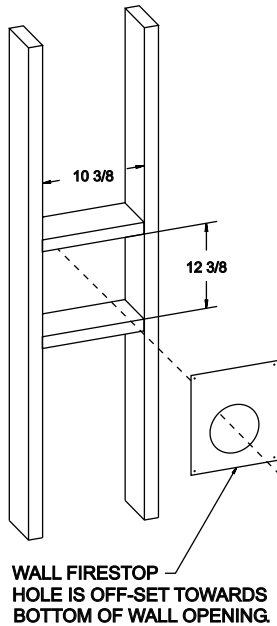

Figure 29
**Installing Firestops (Figures 29, 30, 31 and 32)**
Cut a 10-3/8 inch x 12-3/8 inch hole in wall. Position firestop (SD-1249) on **interior** side of wall for 10-3/8 inch x 12-3/8 inch hole. **Attention:** Wall firestop hole is off-set towards bottom of wall opening. Secure with nails or screws. Continue the vent run through the firestop. (See Figure 29)